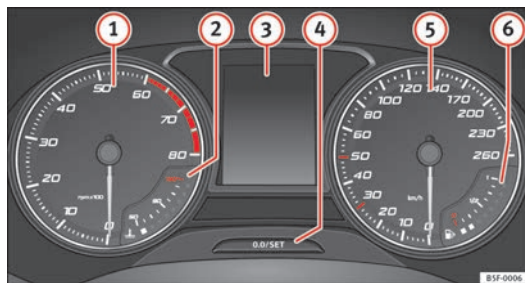

Fig. 38 Instrument panel, on dash panel.
Details of the instruments ⇒ Fig. 38:
⇒ Fig. 38 ③ depending on the vehicle equipment:
- Briefly press the button ⇒ Fig. 38  to reset the trip recorder to 0.
- To set the time, keep the button ⇒ Fig. 38  pressed for more than 3 seconds to select the hour or minute display.
Hold the button ⇒ Fig. 38 ④ down for more than 15 seconds to display the identifying letters of the vehicle engine (MKB). To do this, the ignition must be switched on and the engine switched off.
The service interval indication appears on the instrument panel display ⇒ Fig. 38 ④.